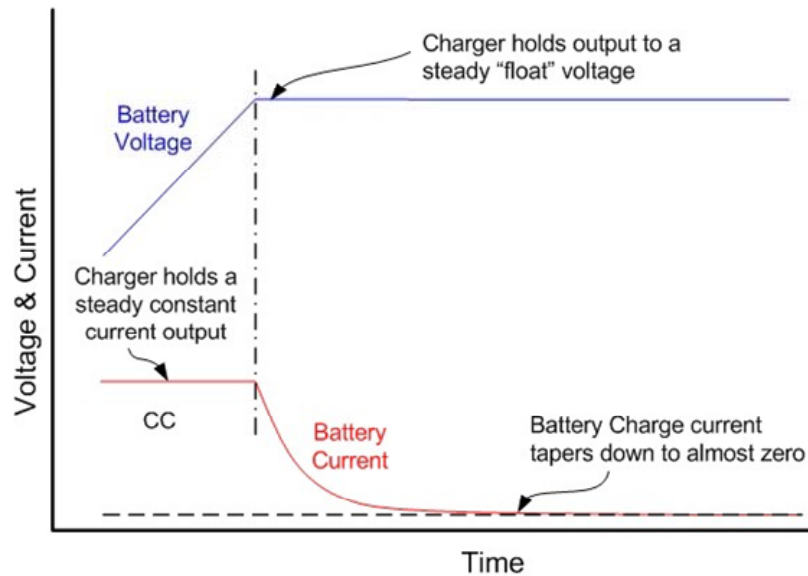

Figure 5 Battery Voltage and Current During Recharge
For ALE 12V7 Series batteries operating under normal conditions during a charge, a charger applies a constant current (CC) until the terminal voltage reaches its end of charge voltage (maximum), as shown in Figure 5 on page 34. This process is followed by a float voltage, where the charge current decays to near zero. As the battery approaches 100% State of Charge (SOC), the balancing circuitry performs cell balancing. This process charges the ALE 12V7 Series battery to 100% State of Charge (SOC).